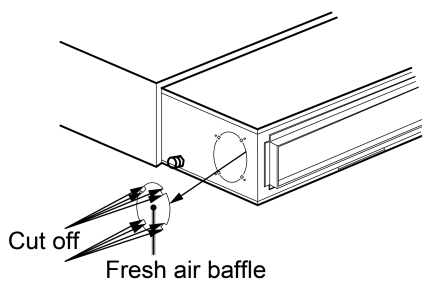

Fig.4.4.7
- (1) When the fresh air pipe is needed to be connected, cut the fresh air baffle as Fig.4.4.7. Plug up the gap of the fresh air baffle by sponge if the fresh air duct is not be used.